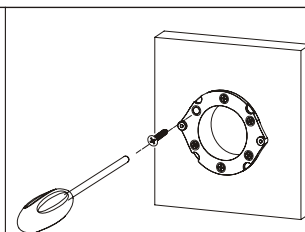

Figure 5
- Place the Mounting Plate on the concrete wall and tighten it with 6 screws. (Figure 5).